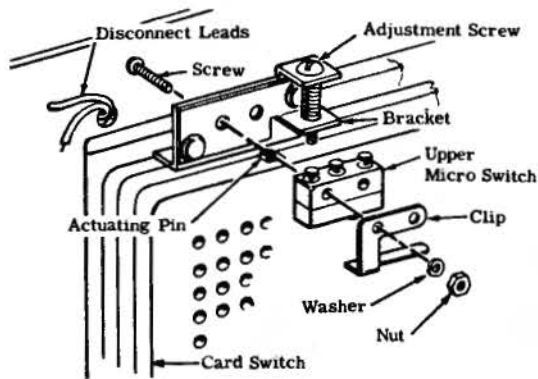

Figure 18 - Replacement of Upper Micro Switch
6.24 Replacement of Upper Micro-Switch. (See figure 18). Unsolder leads from terminals on micro-switch. Remove nuts, washers and screws securing micro-switch to bracket. Remove microswitch. Exercise care not to lose small actuating pin in card switch. Install new micro-switch in reverse order of removal procedure.